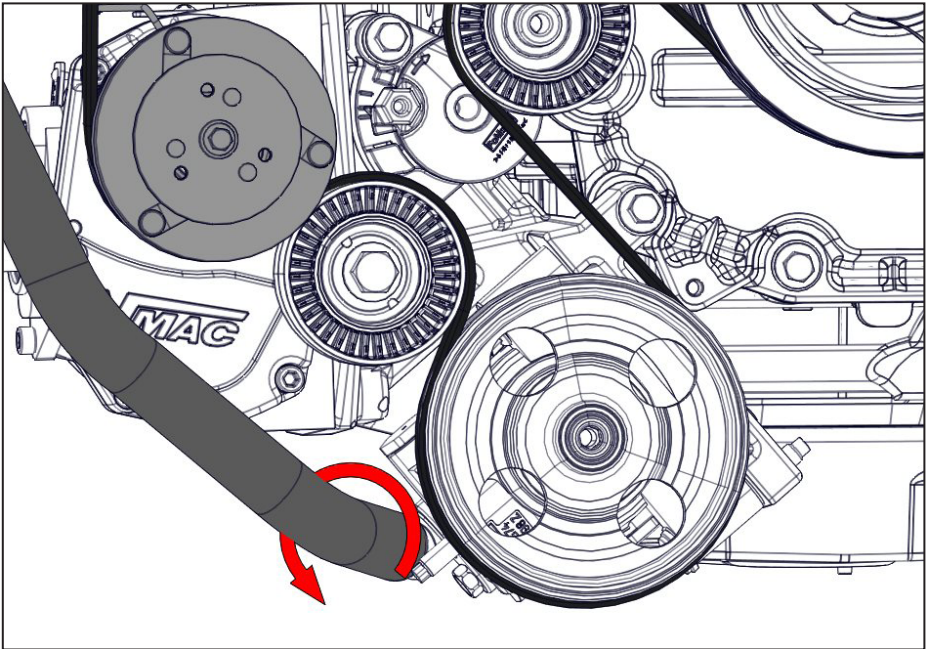

Figure 84 — Rotate power steering hose
- Route the power steering feed hose along the best path from the reservoir to the pump. The hose can be rotated to ensure it will not contact the compressor clutch, the A/C clutch or any other hot, sharp or moving components (Figure 84).